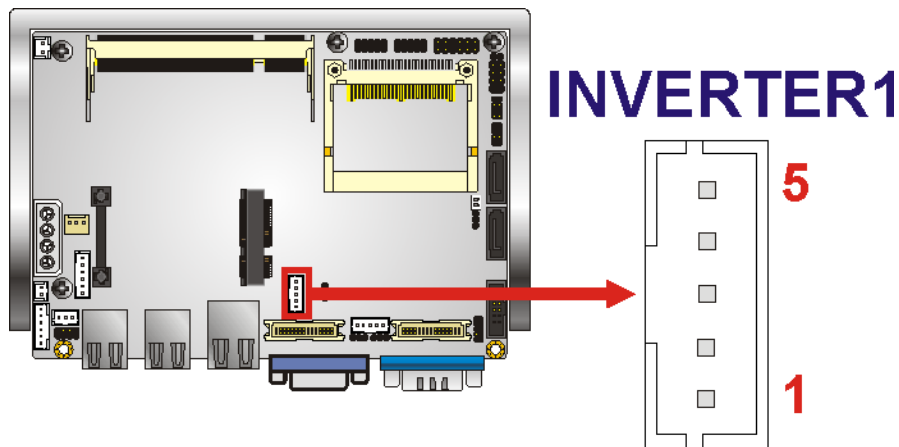

Figure 3-12: Backlight Connector Pinout Locations
- CN Location:** See Figure 3-12